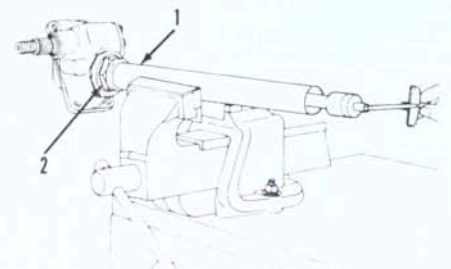

Fig. 25—Adjust steering shaft bearing preload by turning steering column (1) into or out of housing. Refer to text.
To reassemble unit, reverse the disassembly procedure while noting the following: Be sure to renew all "O" rings and oil seals. Install sector shaft into case and turn fully clockwise, then install ball nut and engage it with sector gear. Install side cover using liquid gasket on mounting surfaces of gasket. On Models L185, L245 and L285, install cover (26) with shim (25) thickness required to obtain 0.2 mm (0.008 inch) steering shaft end play. On all other models, install steering shaft assembly without upper bushing (22) and seal (23). Use a torque wrench (Fig. 25) to check torque required to turn steering shaft which should be less than 1.7 N·m (15 in.-lbs.). Turn steering column (1) into or out of sector housing to obtain desired turning torque, then tighten column locknut (2) securely. Be sure to align